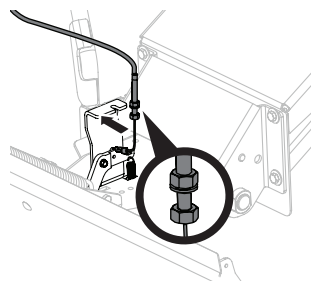

Figure 12
- Slide top nut and washer up and into mounting slot located on lever lock mounting bracket. See Figure 12.